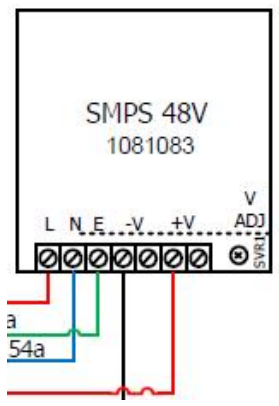

Figure 1-4
Defective power supply – Switch Mode Power supply (SMPS)	<ul style="list-style-type: none"> <li>On the SMPS, measure the DC voltage between Red (+V) and Black (-V) Measure on the side away from the SMPS. Figure 1-4</li> <li>The voltage should be in range of <math>+48\text{ VDC} \pm 10\%</math>.</li> <li>If out of range or no voltage, check AC incoming power to the SMPS – check terminal (L) and (N). The input of SMPS should be <math>230\text{V} \pm 10\%</math> of the cabinet incoming voltage.</li> <li>If input voltage exists but there is no output voltage, please replace the SMPS.</li> <li>If input and output voltage is correct, please Proceed to the next step.</li> </ul>